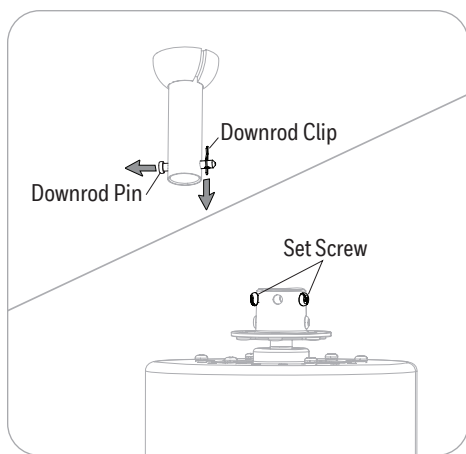

Figure 2.4
4. Remove the downrod clip and downrod pin from the downrod. Then partially loosen the two set screws in the yoke at the top of the motor assembly (Figure 2.4).